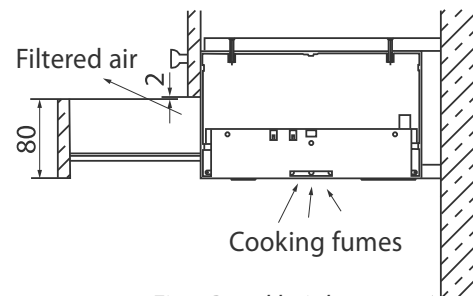

Fig.5 Panel heights
Ensure the overhead cabinets are built according to Fig.5 (below).
If the rangehood is to be installed as a recirculated hood, first ensure the cabinets are built according to Fig. 5 below:
- 4 Replace front fascia "B" with a replacement front panel "C", constructed of same or similar material as the surrounding cupboard doors. See Fig. 5 for height of panel.